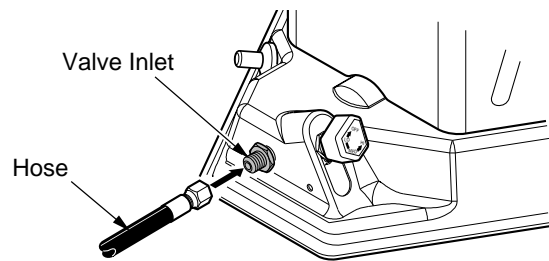

Figure 3 - Hose and Valve Inlet
2. Connect fuel gas fitting on hose/regulator assembly to propane tank(s). Turn fuel gas fitting counterclockwise into threads on tank. Tighten firmly using a wrench. **IMPORTANT:** Tighten regulator with vent pointing down (see Figure 3). Pointing vent down protects regulator from weather damage.